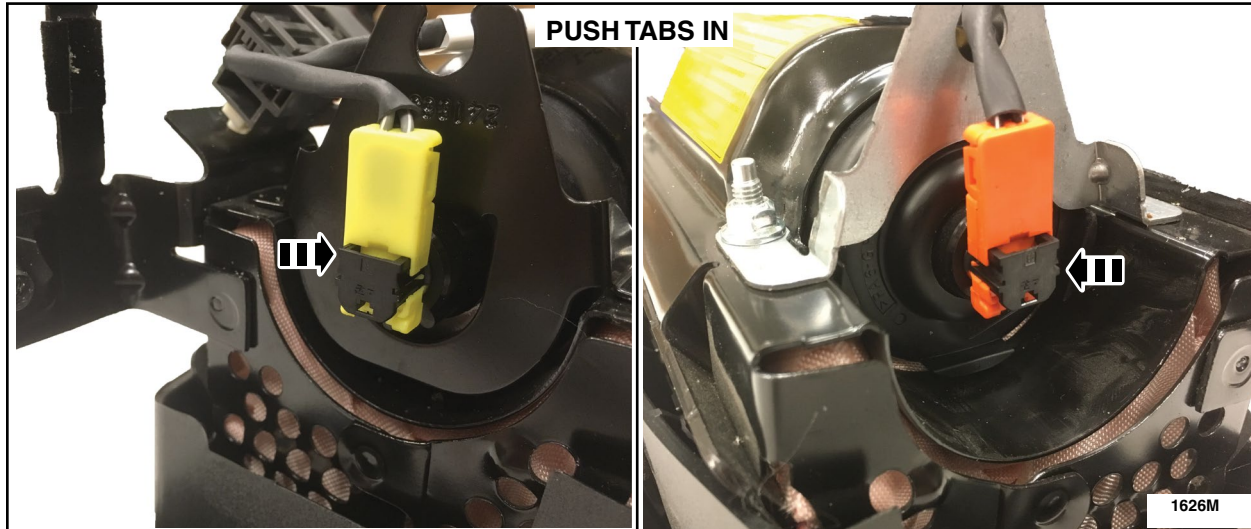

**FIGURE 11**
13. Align the T-shape index on both the wiring harness electrical connector and the airbag inflator. Install the new wiring harness onto the passenger airbag module and connect to both sides of the inflator. See Figure 11.